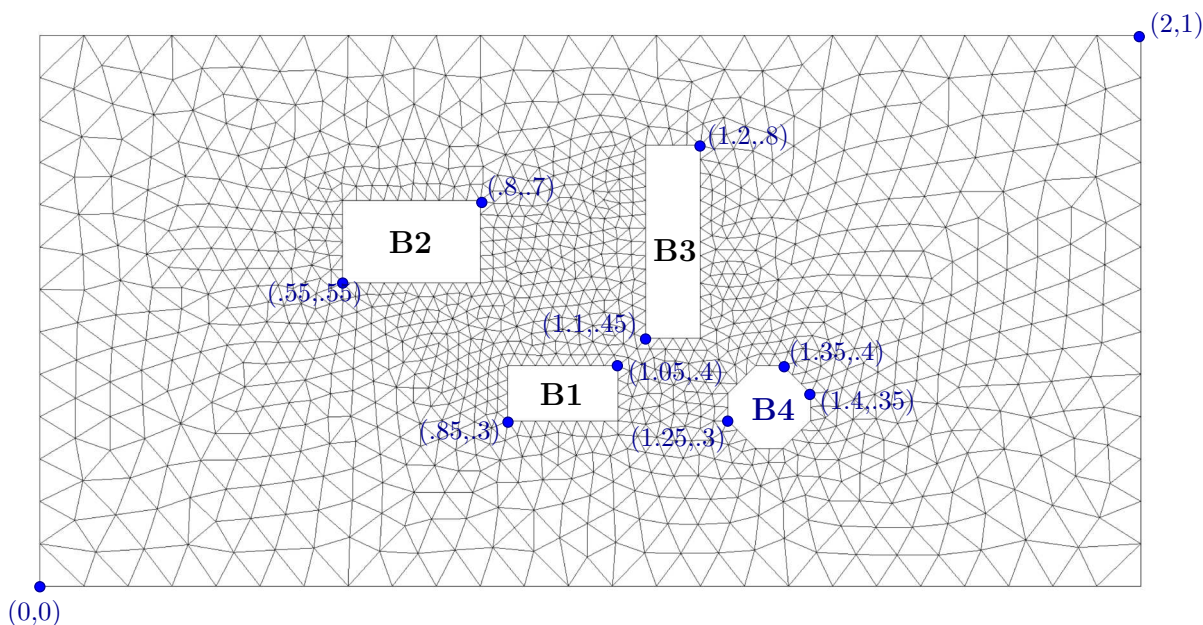

Figure 1: Problem setup and a sample coarse mesh of about 2000 triangles.
In this project you will generate unstructured, triangular meshes for a two-dimensional miniature “city” geometry, consisting of four buildings in a rectangular, wall-enclosed domain. The setup and a sample mesh are shown in Figure 1. Buildings B1, B2, B3 are rectangles, whereas B4 is an octagon (not equal-sided) obtained by clipping corners from a $.15 \times .15$ square. All length units are meters.
1. [30%] Generate a coarse triangular mesh of approximately 2000 elements for the provided domain, using a mesh generation program or a method of your choice. You should cluster nodes in the vicinity of the buildings, similarly to the mesh shown in Figure 1. Describe your approach, include an image of your mesh in your writeup, and include the `.gri` file, called `city0.gri` in your `.zip` archive.
- **I2E**: a mapping from interior faces to elements. The number of rows is the total number of interior faces in the mesh. Each row contains four integers, `elemL`, `faceL`, `elemR`, `faceR`, where `elemL`, `elemR` are the indices of the two adjacent elements. To avoid ambiguity, define the left element (L) as the one with the smaller element index. `faceL`, `faceR` are numbers between 1 and 3 inclusive that encode which *local* face in each element corresponds to the interior face under consideration. In each element, local face number i is the face opposite local node i .